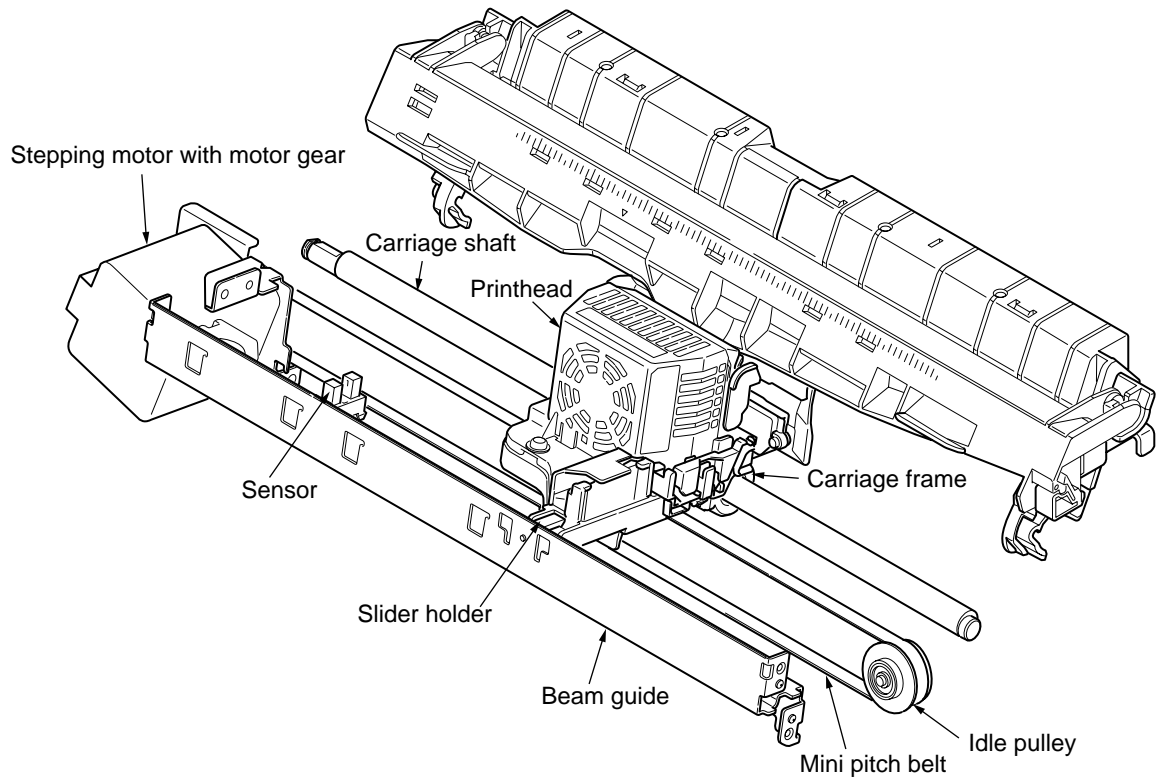

Figure 2-19
(3) Top line print mechanism (See Figure 2-19.)